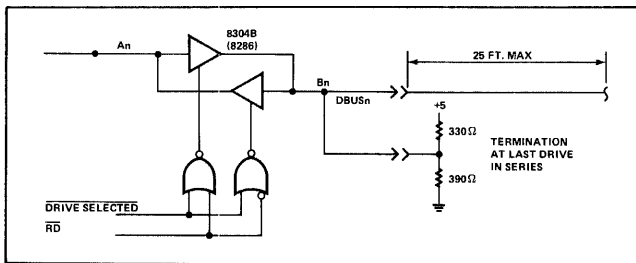

Figure 3-27. DBUS Transceiver
3.19.1 + DBUS 0-7. This high-active 8-bit wide bus is used to transfer commands and status (head carriage control and interface) between the disc drive and the controller. These lines connect directly to an 8304B (or 8286) bus transceiver, as shown in Figure 3.27. DC characteristics are listed in Table 3-2. These lines should be terminated at each end.
3.19.17 Interface DC Characteristics. This section, through tables and figures, sets forth the details that need to be observed, in order to properly transmit and receive the interface signals. The signal characteristics are shown in Table 3-2 to 3-10 and Figures 3-27 to 3-24.